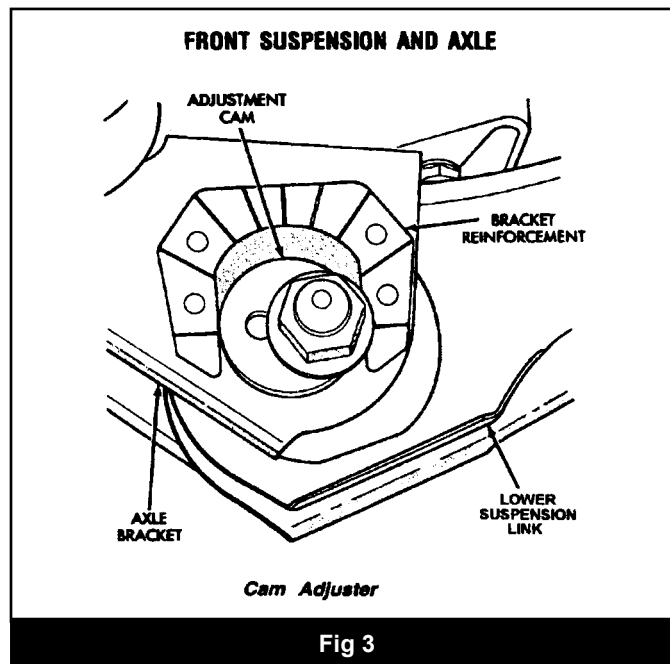

Fig 3
14. On both sides of the vehicle, make index marks on the alignment eccentrics at the axle (Fig 3). Mark the cams to indicate driver's versus passenger's side.